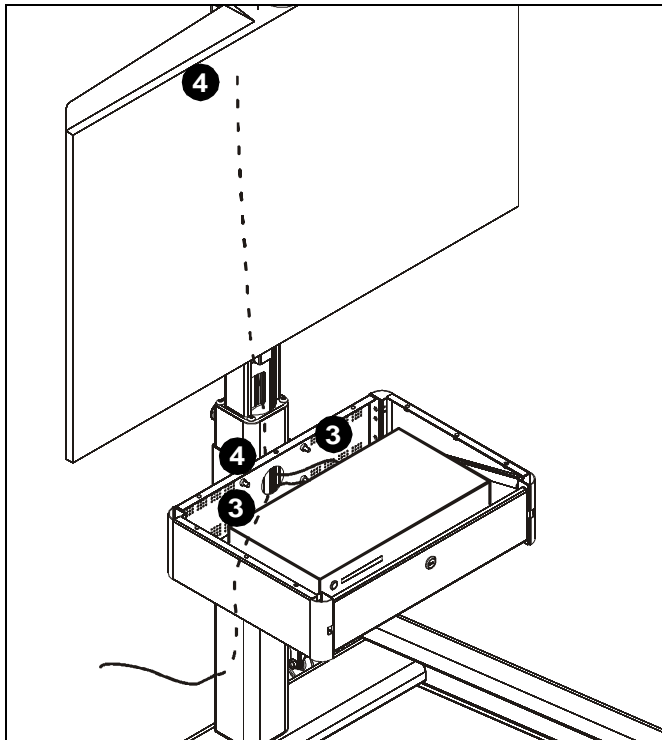

Figure 13
3. Any accessory power cords can be run through the opening on column behind storage shelf and down through the post to exit out the back. (See Figure 13)
4. Route signal cables from display to corresponding devices in storage shelf. (See Figure 13)